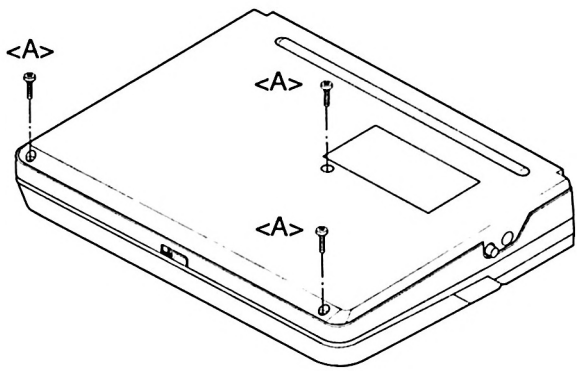

Figure 3
(5) Turn over the computer and remove three screws <A> ($3\text{Ø}\times 10$) on the bottom panel as shown in Figure 3.
(6) Place the back of unit to your side.